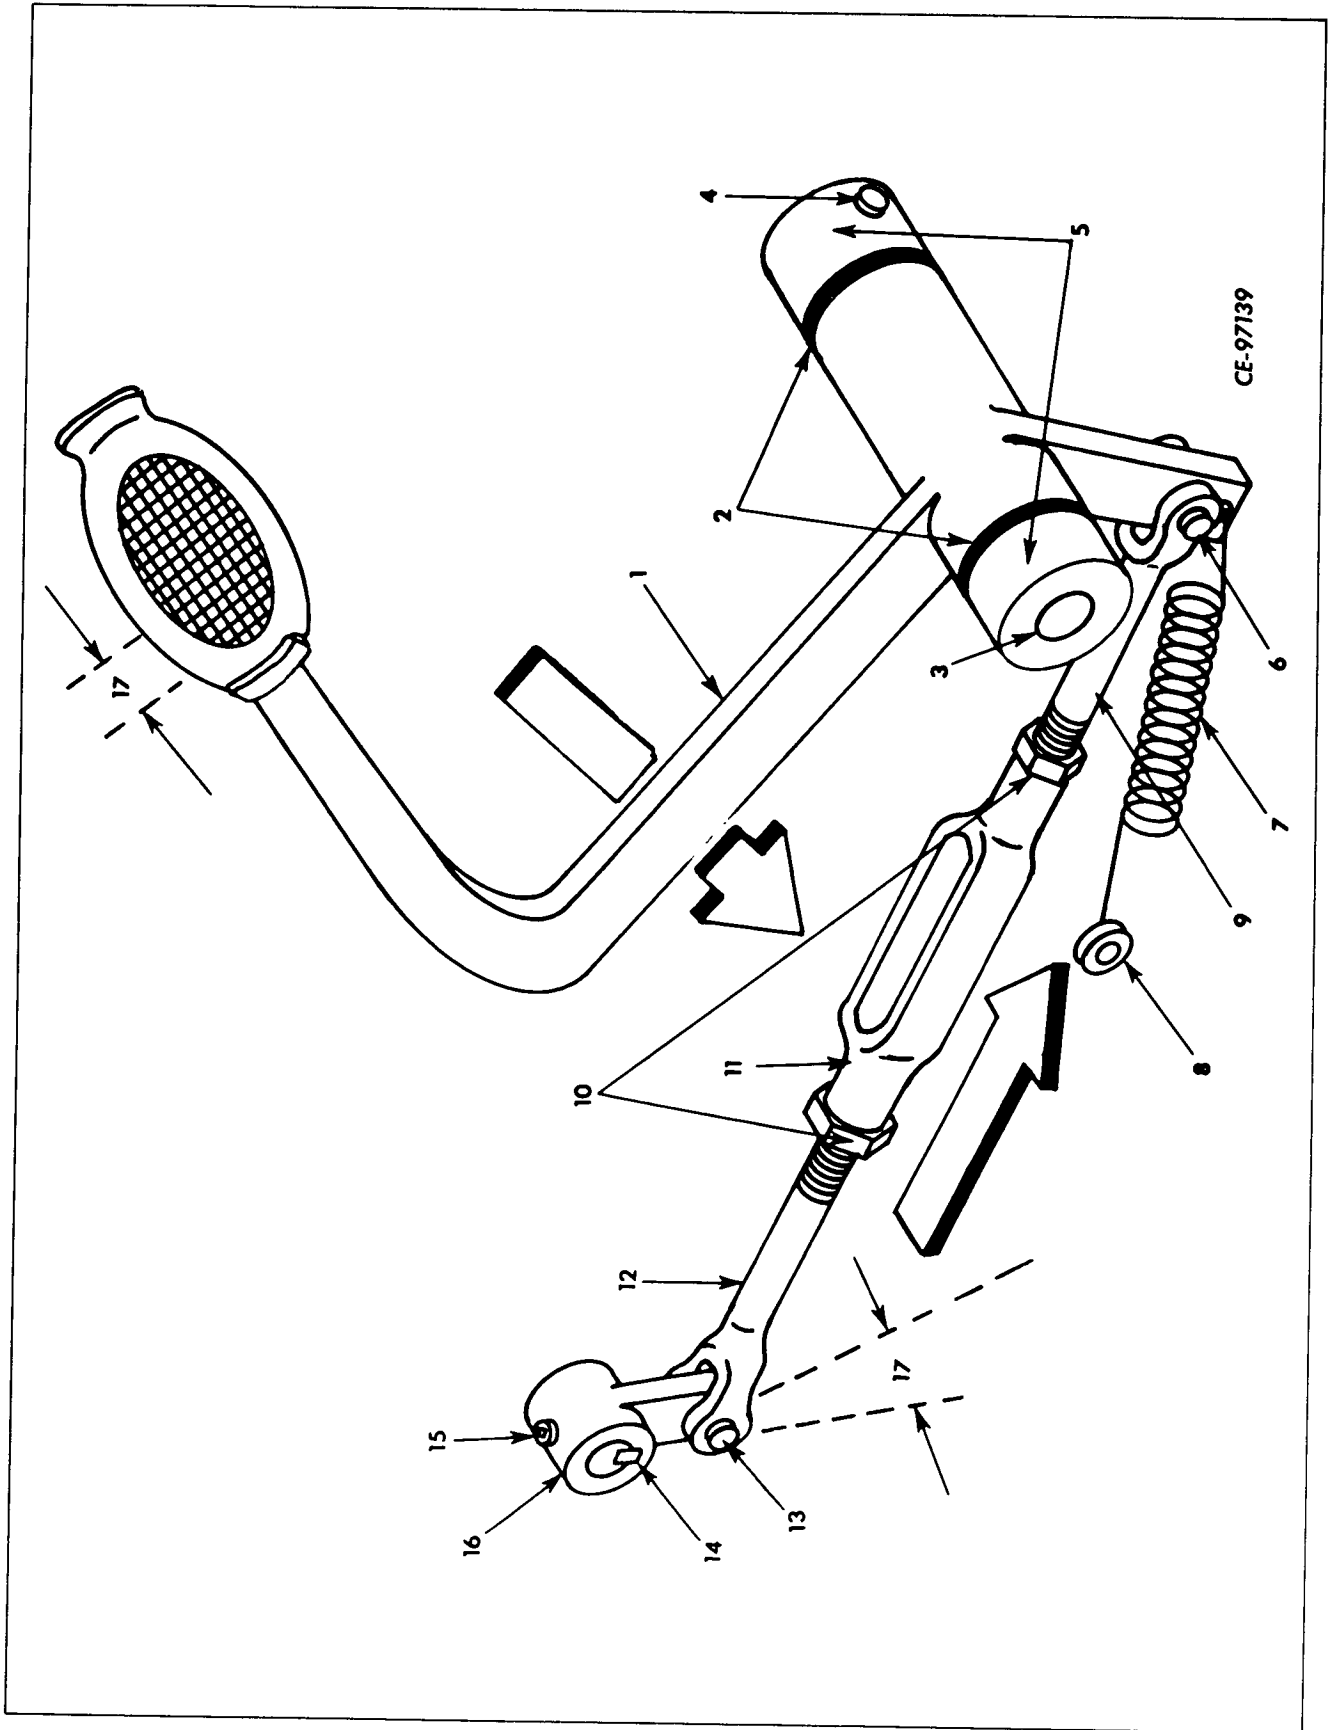

Figure 15-3
To obtain proper clutch "free-play" loosen jam nuts (10, Fig. 15-3) and rotate turnbuckle (11) counterclockwise to reduce and clockwise to increase "free-play."